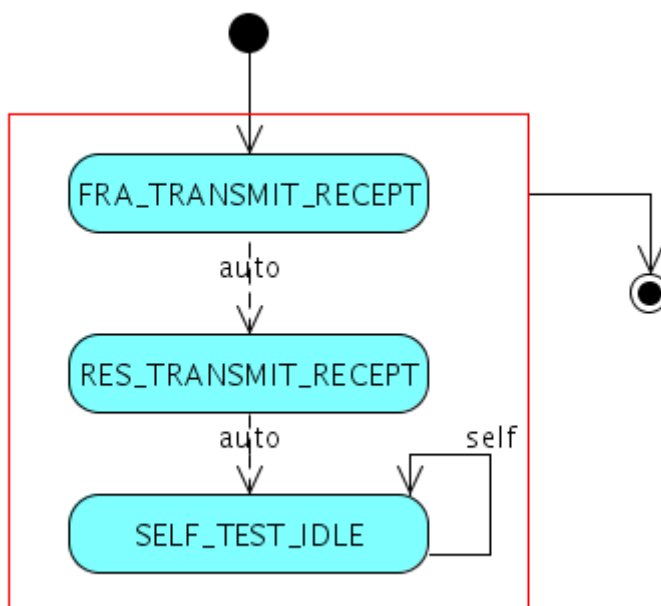

Figure 7.9: State diagram in SELF_TEST mode of the RLIN3 model
- (1) RESETTING: RLIN3 is in resetting.
- (2) SELF_TEST: This state processes operations in Self Test mode including transmission/reception operations in LIN Master/LIN Slave. RLIN3 issues a transmission/reception successful interrupt for each transmission/ reception data. The figure 7.9 describes the state machine of this state.